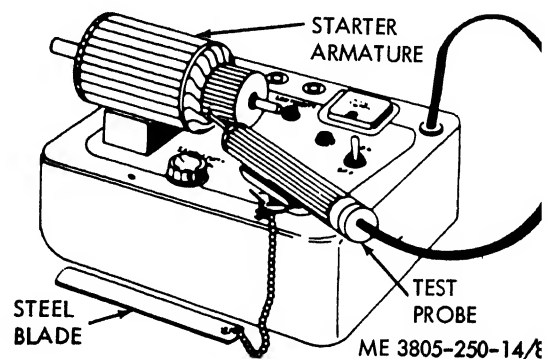

Figure 8-7. Starter tester growler.
(2) **Starter testing.** Conduct the following tests using 6625-857-9163 (40-215) growler (fig. 8-7). Tests (a), (b) and (c) are performed on the armature when it is removed from the starter. Test (d) is performed on the starter assembly. Test (e) is performed on the coil.